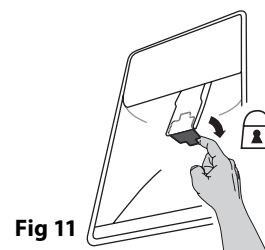

Fig 11
**DISPENSER CHILD LOCK:** You can lock the dispenser's paddle to avoid children dispensing water (flip the small lever behind the paddle as shown in (**Fig. 11**))